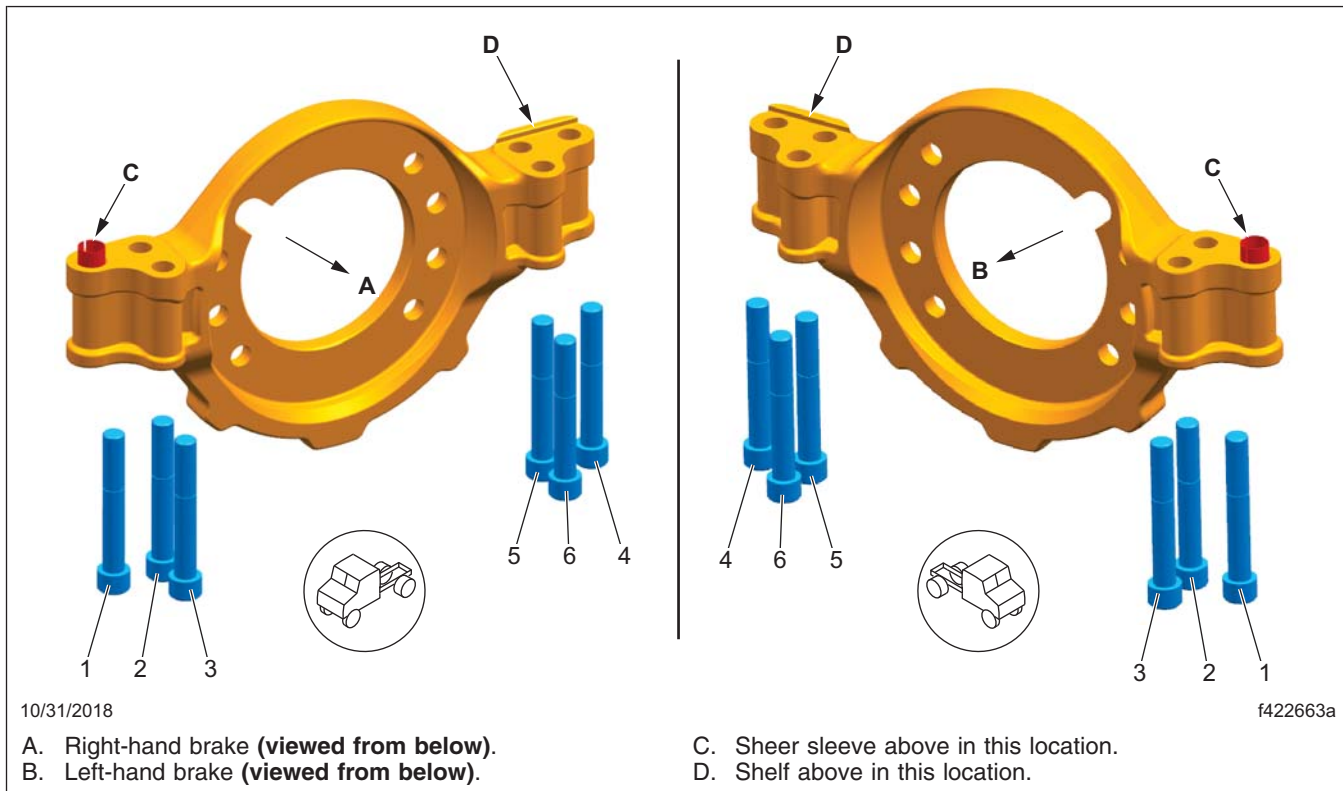

Fig. 7, Bendix Radial Mounted Caliper Tightening Pattern (viewed from below)
- Set a torque wrench to 200 lbf·ft (271 N·m) and tighten the caliper mounting bolts following the tightening pattern shown in Fig. 7. If they do not turn, no further work is needed. If they turn, take the vehicle to an authorized Freightliner dealer to have all of the caliper bolts on that wheel end replaced.